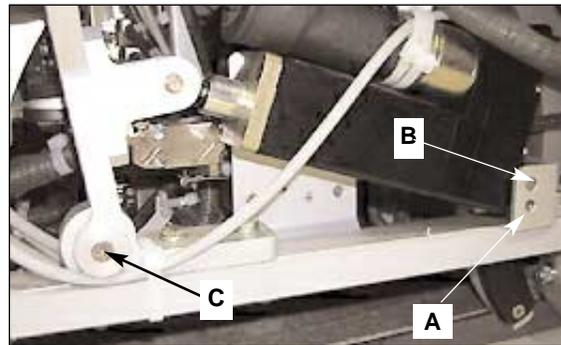

FIG. 311:
- (4) Remove armcap with hinge by acting on its attaching screws.
- (5) To remove endbay actuator, unplug connector; remove screw (A) and pivot (B), both from the inner side of the endbay; remove also screw (C). (see fig. 311)